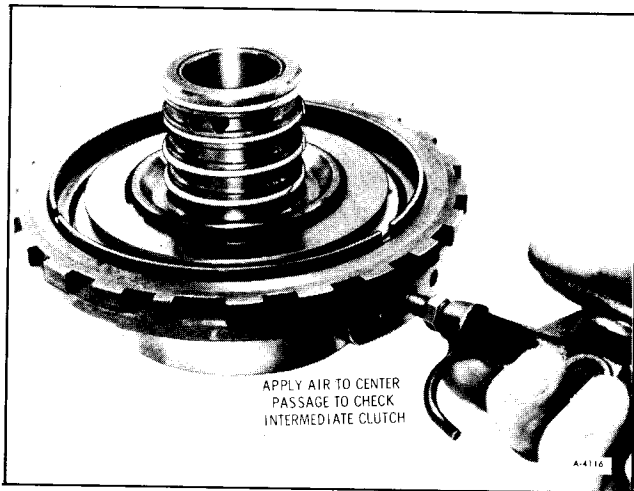

Figure 69—Air Checking Intermediate Clutch & Piston support.
8. Air check operation of intermediate clutch and piston. Apply air through center oil feed hole to actuate clutch piston, Figure 69.